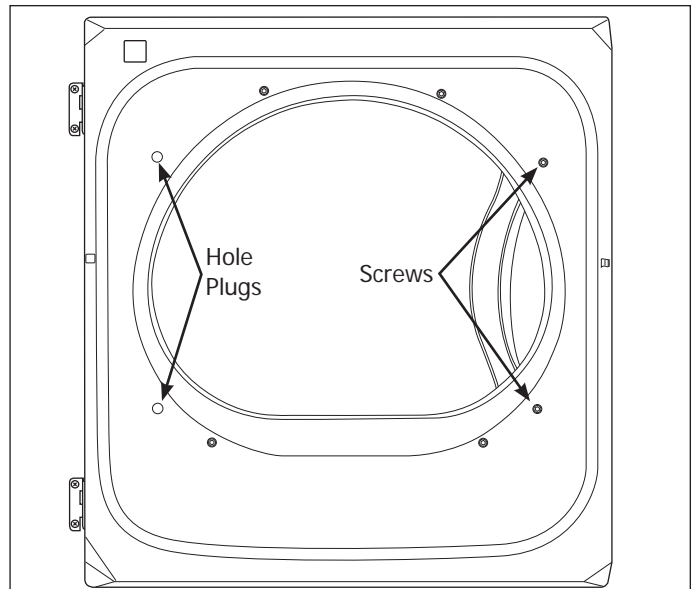

Figure 2-39.
3. Remove the two handle hole plugs from the door. Retain the plugs for use later. (See Figure 2-39)